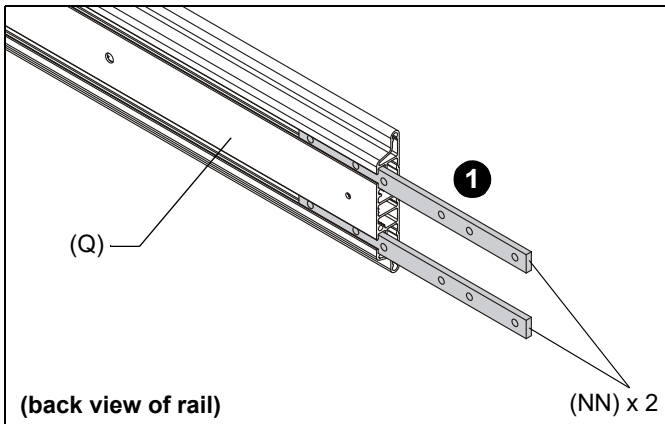

Figure 16
1. Insert two tie bars (NN) into the slots on one section of mounting rail (Q). (See Figure 16)